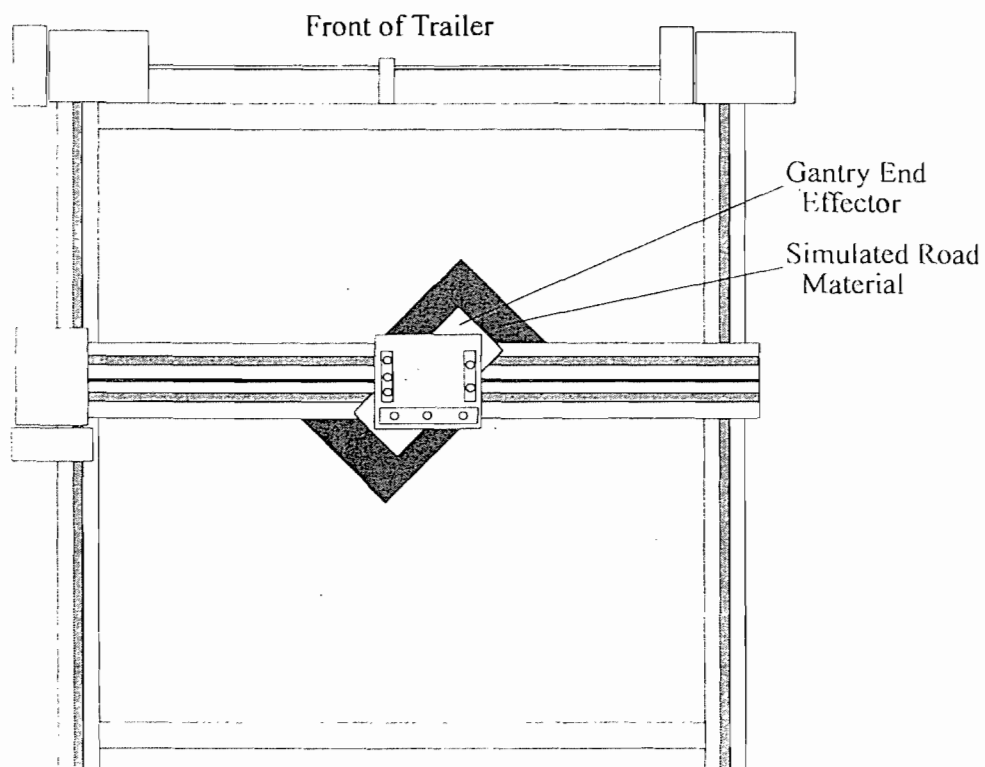

Figure 2.11.4: Material Installation
2.11.8 Place a piece of Simulated Road Material (i.e., Mineral Surface Rolled Roofing), approximately 1 foot wide by 3 foot long, under the Gantry end effector. (Figure 2.11.4) If the LFN is to be used, place a similar piece under the guns of the LFN.